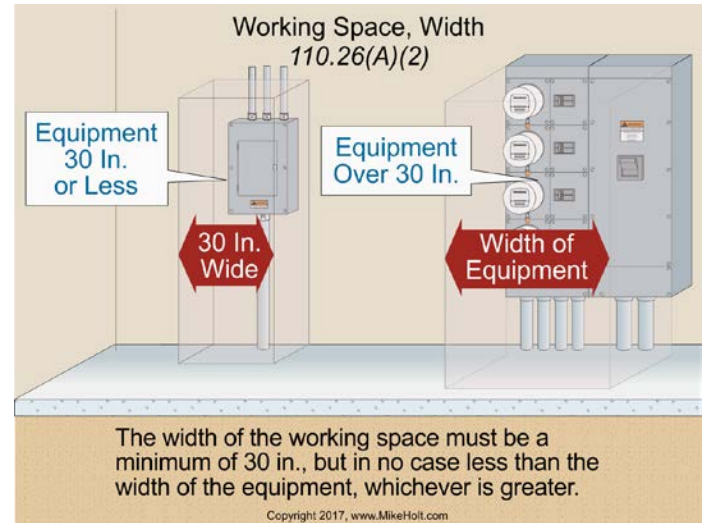

Figure 110-32
(2) Width of Working Space. The width of the working space must be a minimum of 30 in., but in no case less than the width of the equipment. Figure 110-32